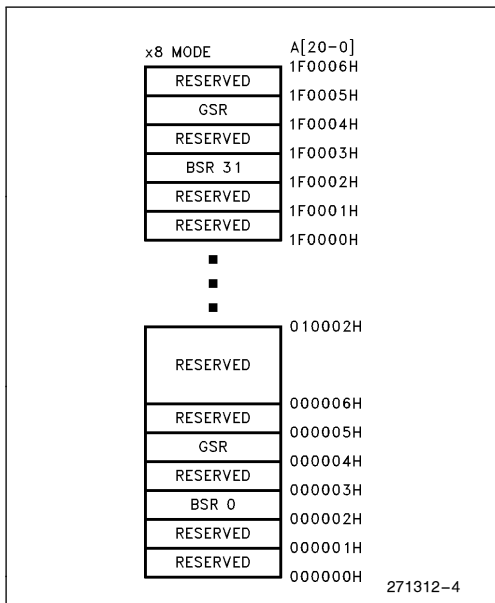

Figure 4. Extended Status Register Memory Map (Byte-Wide Mode)
The GSR and BSR memory maps for Byte-Wide and Word-Wide modes are shown in Figures 4 and 5.
1. RA can be the GSR address or any BSR address. See Figures 4 and 5 for Extended Status Register memory maps.